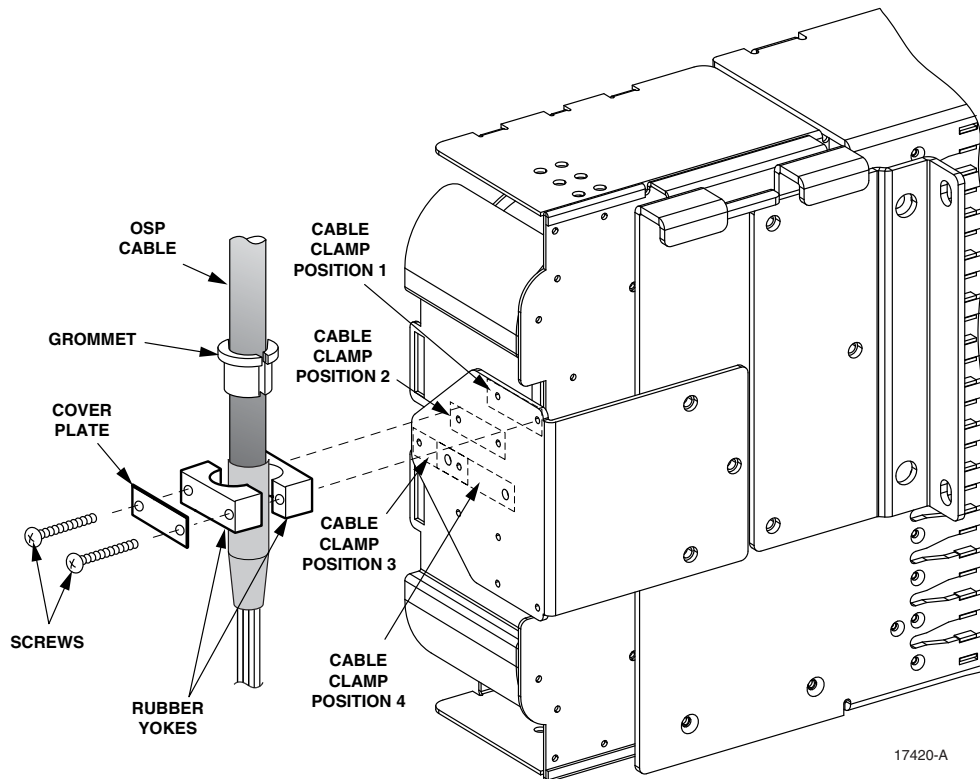
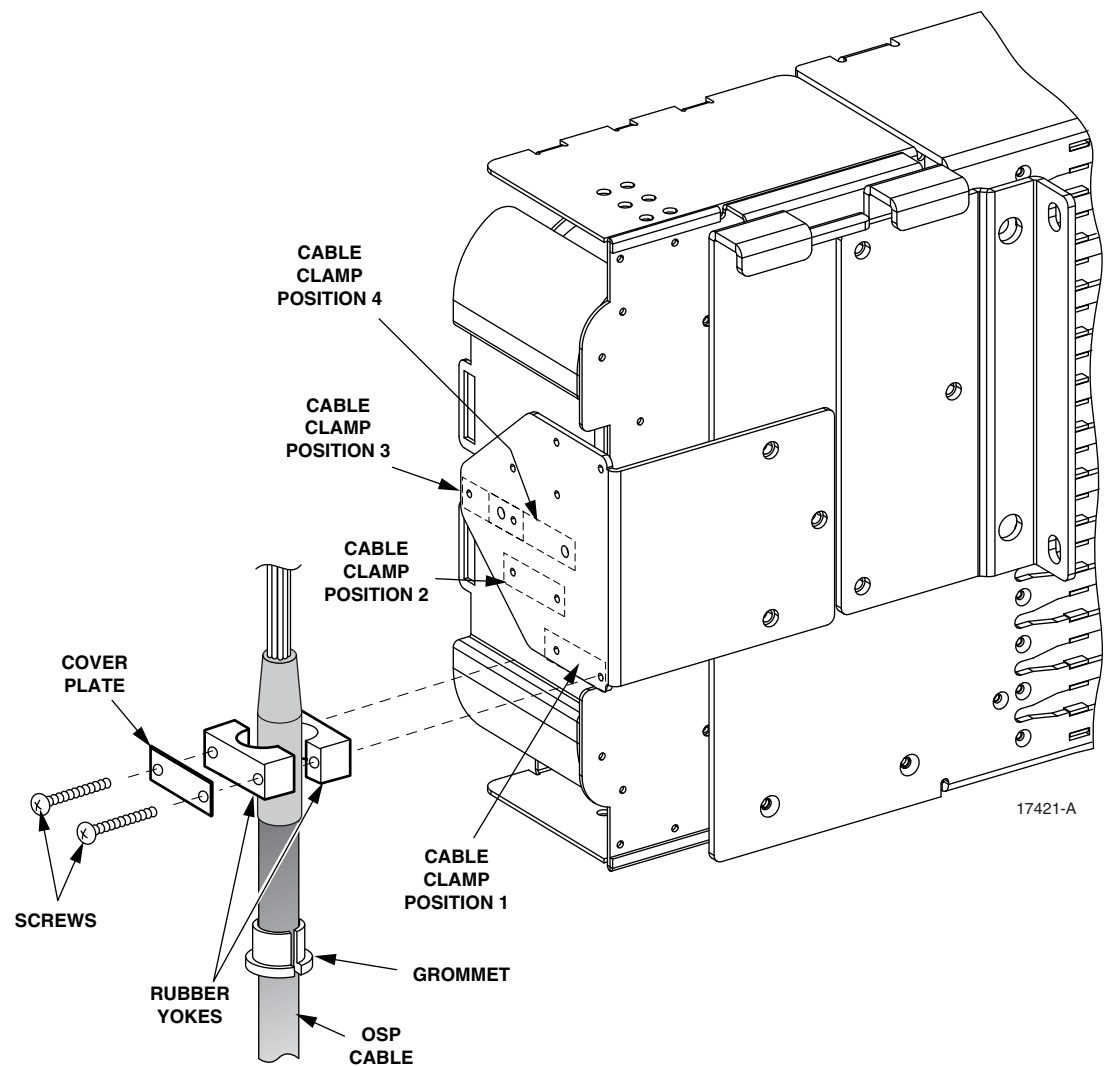

Figure 14. Top Exit IFC/OSP Cable Clamp Installation
Figure 15. Bottom Exit IFC/OSP Cable Clamp Installation
Two CommScope clamp kits are available. Kit # NGF-ACCCLMP08 is used for cables with an outside diameter of 0.4 to 0.8 inches (1.01 to 2.03 mm). Kit # OSP-CLPSST-IFCL is used for cables with an outside diameter of 0.8 to 1.2 inches (2.03 to 3.05). Cable clamps may be installed in either a top exit or bottom exit position (shown in Figure 14 and Figure 15, respectively). Use the following procedure for installing either cable clamp kit.
1. Locate the cable clamp mounting position at the rear side of the FTB. Note that four clamping positions are provided for both top exit and bottom exit positions (shown in Figure 14 and Figure 15, respectively).
5. Place the rubber clamp yokes and the grommet selected in step 4 around the cable and then secure the cable to the FTB (see Figure 14 and Figure 15).